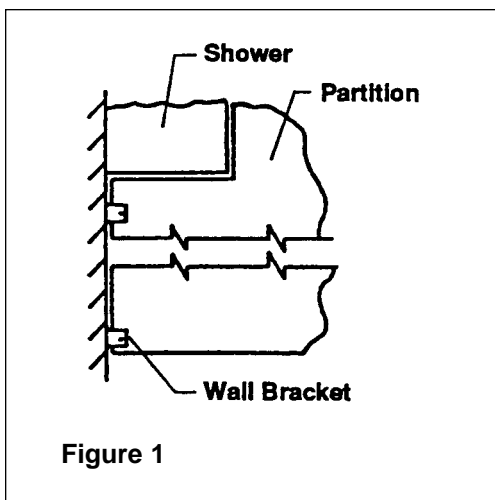

Figure 1
3. Using the wall brackets as templates, mark the two wall bracket positions on the partition (see Figures 1 and 2).